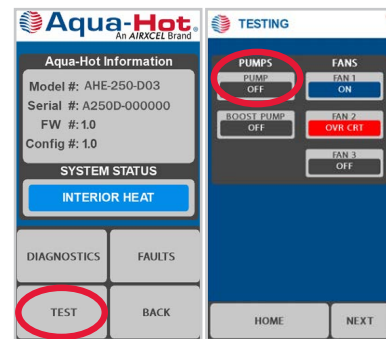

Figure 52a
2. Locate the LCD screen. Navigate to the TESTING page (Figure 52a). Activate the internal circulation pump and if necessary, the boost pump.